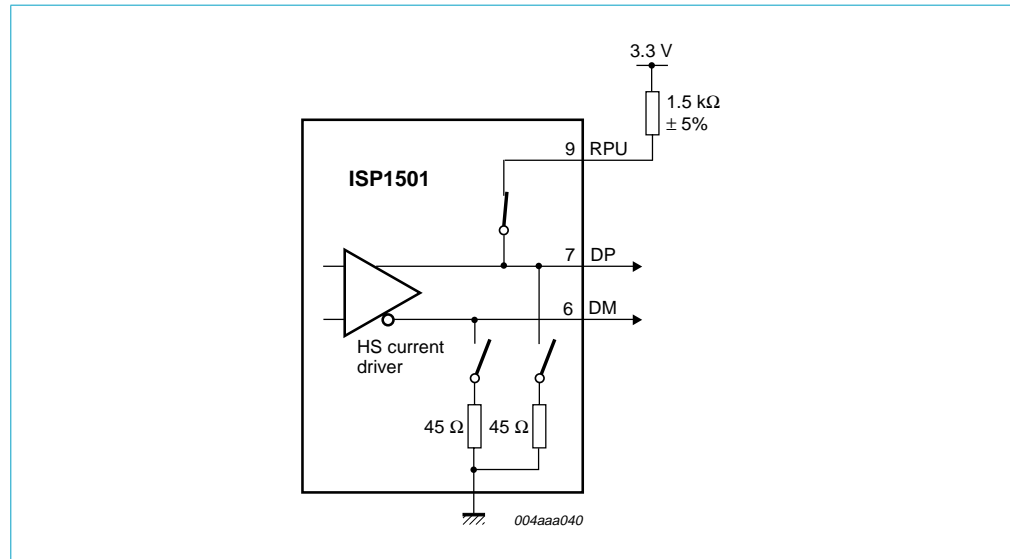

Fig 6. High-speed chirp state.
8.2.4 High-speed (HS) chirp state
In the high-speed (HS) chirp state, $45\ \Omega$ terminations are disabled from the DP and DM lines. The pull-up resistor is connected on the DP line. The HS transceiver is enabled, and the parallel interface and HS handshake signals are in use (see Figure 6).